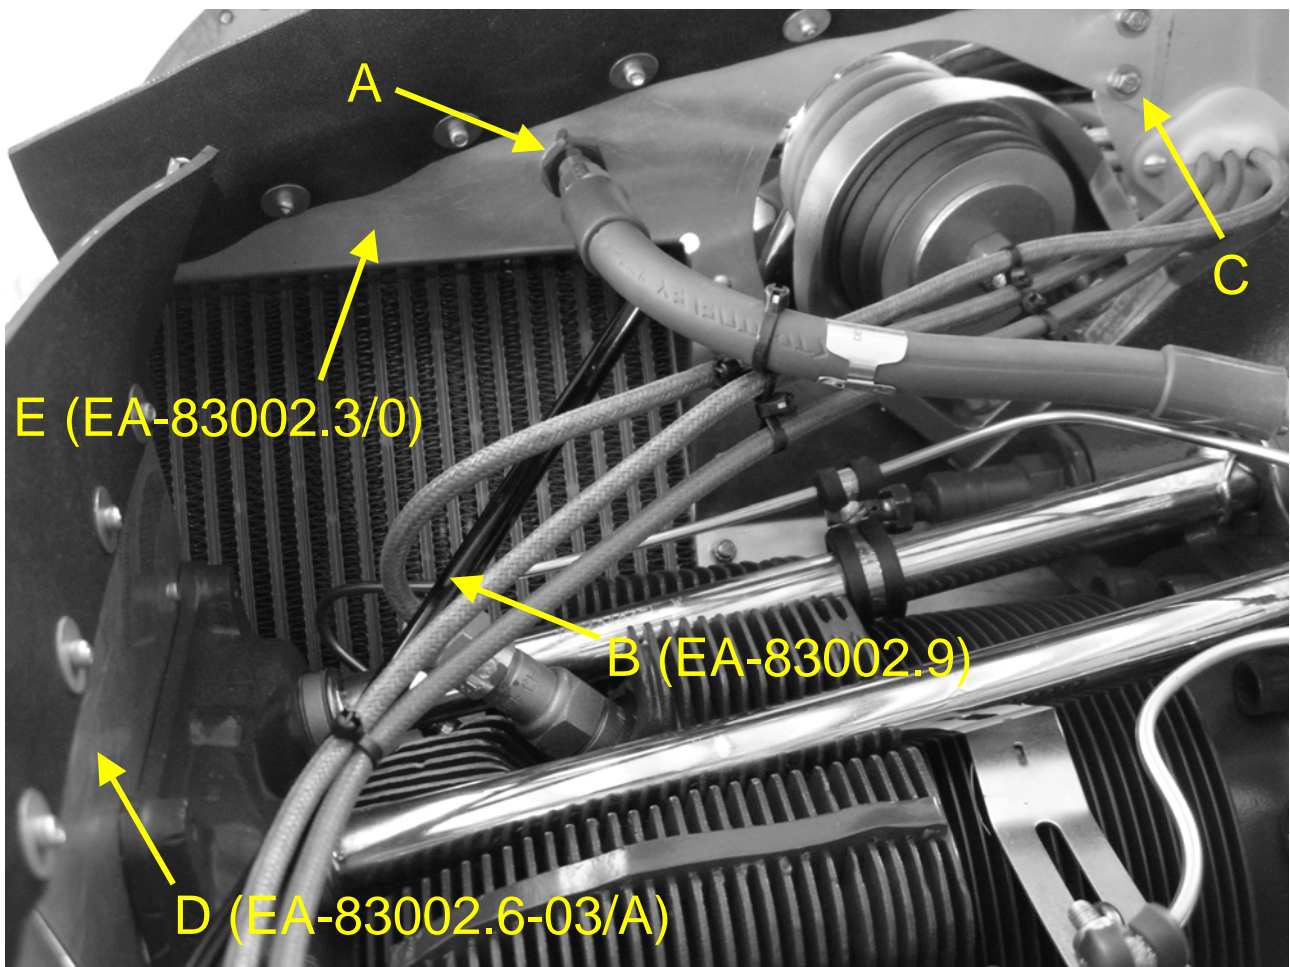
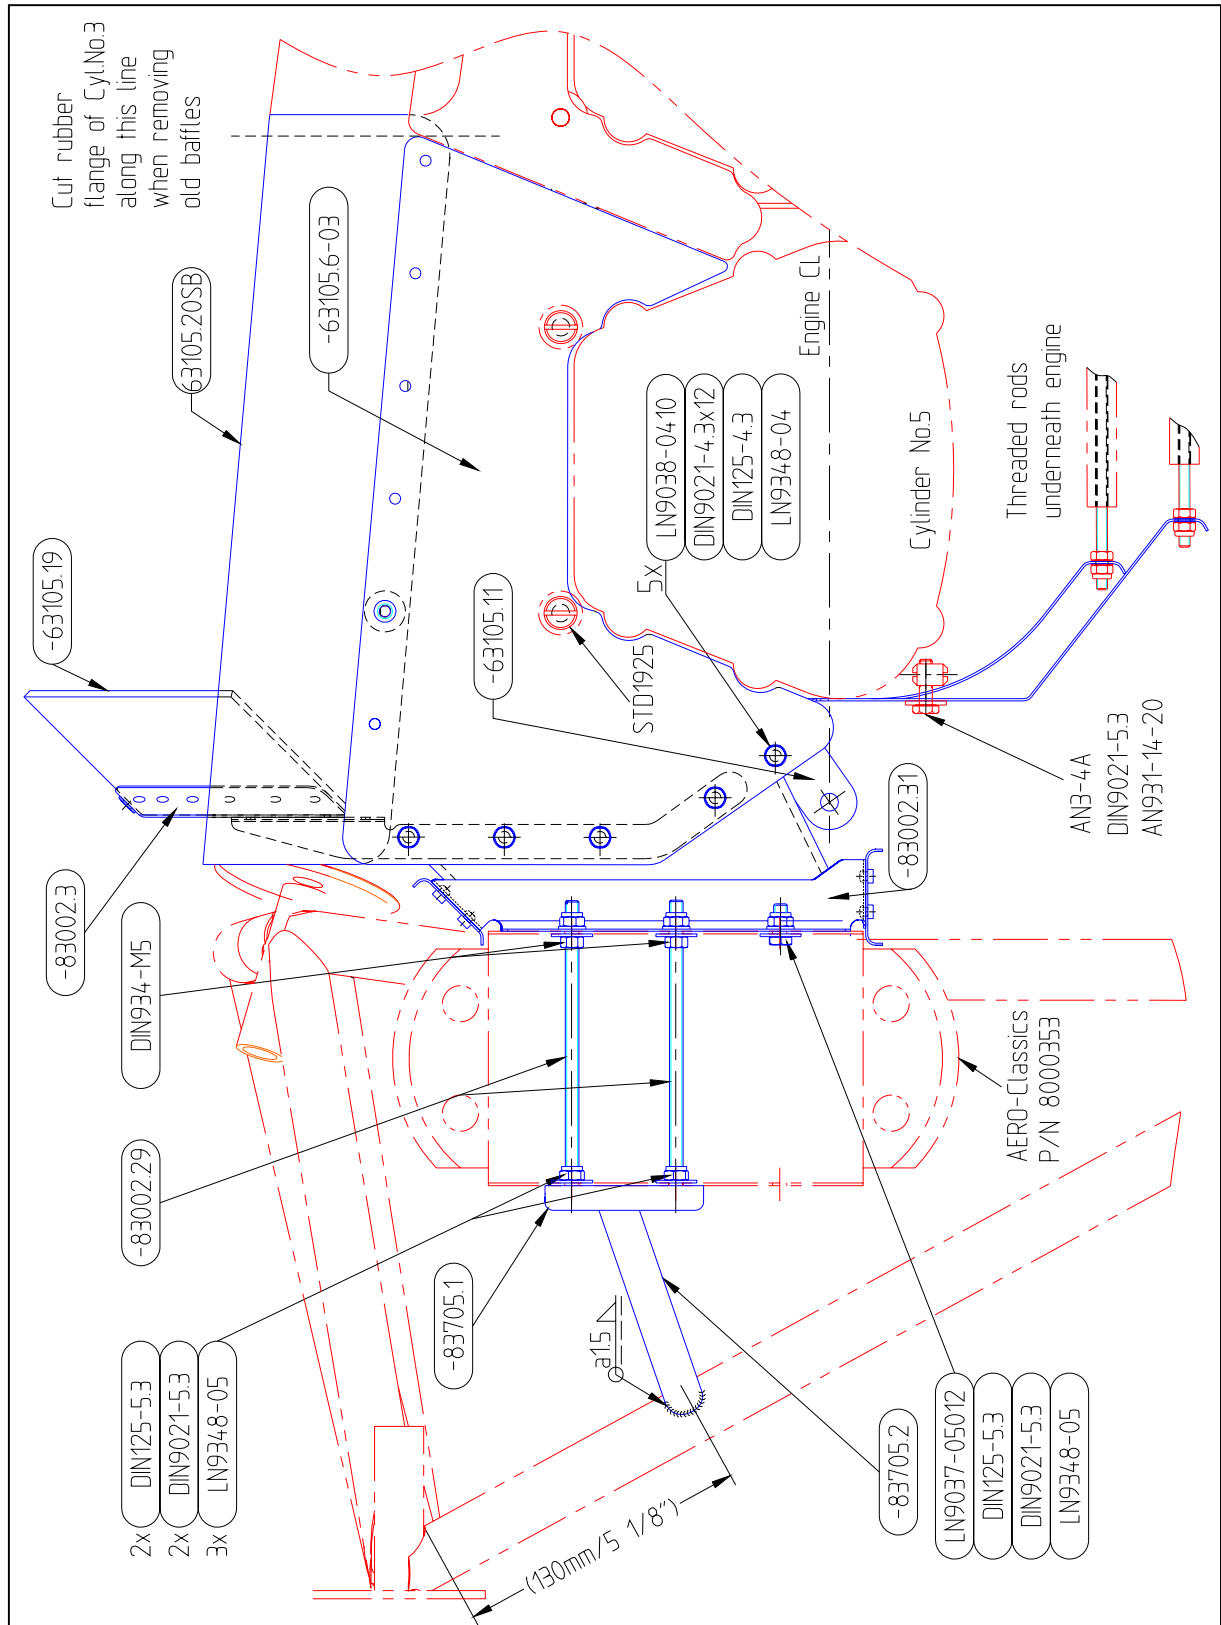

Fig. 2: Front View Current Oil Cooler Installation.
Figure 4: Side view of oil cooler installation on engine mount
- Disconnect fuel sensing lines at RH AFT cooling baffle and remove bulkhead fitting, point A in Figure 2 (the AN832-4D bulkhead fitting is not needed for the new installation).
- Remove rod EA-83002.9, point B in Figure 2 (not needed for the new installation).
- Remove bolts connecting the AFT middle baffle (P/N EA-83002.7) to the RH AFT baffle (P/N EA-83002.3), refer to connection C in Figure 2. Disconnect the threaded rods on the underside from the RH AFT baffle (P/N EA-83002.3), see Figure 4.
- Remove baffles EA-83002.6-03 index A and EA-83002.3 index 0 including attached rubber flanges, respectively points D and E in Figure 2 (not needed for the new installation). Pre-cut the rubber flange attached to the cylinder head baffles between Cylinders No.3 and No.5 just FWD of the most FWD rivet position on the baffle on Cylinder No.5, see Figure 4.
- Bolt the preassembled RH cylinder head baffle (P/N EA-63105.6-03) to the preassembled RH AFT Baffle (P/N EA-83002.3) according to Figure 4.
- Install the baffle attachment plate (P/N EA-63105.11) on the engine, see Figure 4.
- Determine the position of the hole, needed to bolt the baffle to the engine (Cylinder No.5), located on the lower outboard side of the RH AFT baffle (P/N EA-83002.3). Drill the (Ø5mm, Drill Size #8)-hole in the baffle and insert original bolt and washer, see Figure 4.
- Mark the position of the holes (for point C in Figure 2) in the middle baffle (P/N EA-83002.7) on the RH AFT baffle (P/N EA-83002.3). Remove assembled baffles and drill holes (Ø4mm / Ø5/32", Drill Size #21) in the marked locations in the RH AFT baffle (P/N EA-83002.3).
- Install threaded rods (P/N EA-83002.29) on oil cooler and temporarily install oil cooler according Figure 4.
- Install assembled baffles according Figure 4. The pre-cut baffle rubber on the RH middle cylinder head (Cylinder No.3) has to be cut to exactly fit the new installation.